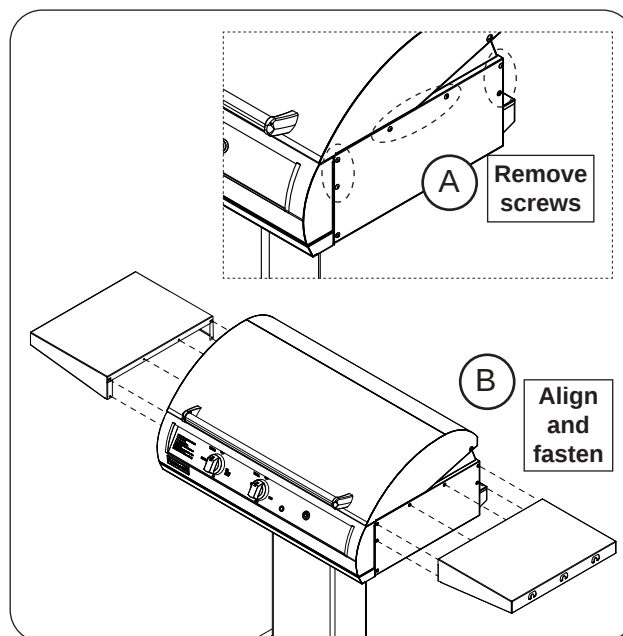

Fig. 34-2 Install rigid shelves
1. Locate and remove the Phillips-head screws shown in Fig. 34-2, A.
3. Insert the six screws and hand-tighten slightly (see Fig. 34-2, B).